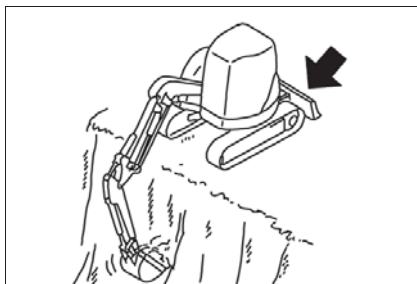

Fig. 186: Deep excavation
- We recommend using the first work position \(Fig. 186\) described above and to ensure that piston rod **A** does not touch stabilizer blade **B** under any circumstances.